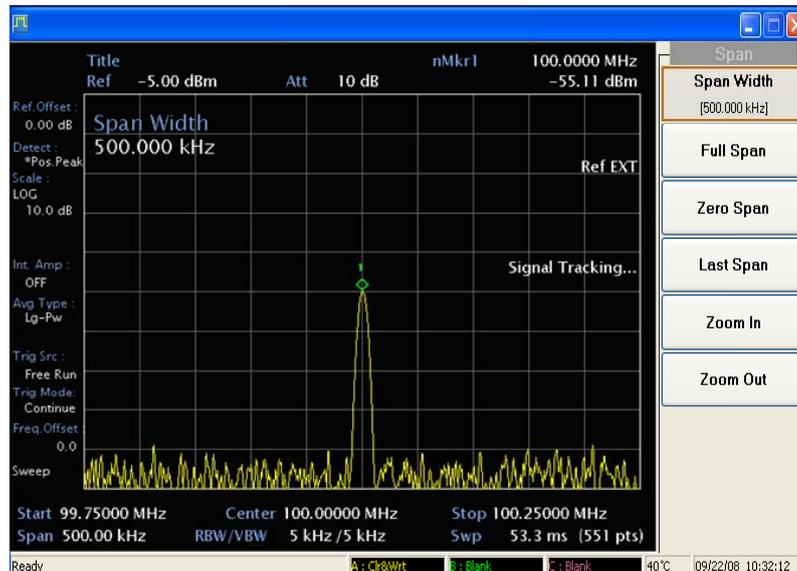

Fig. A-8 After zooming in on the signal
- 5 Press [SPAN] 500 kHz. The span decreases in steps as automatic zoom is completed (Fig. A-8). You can also use the scroll knob or step keys to decrease the span or use the [Zoom] function under [SPAN]. Press [PEAK], [Signal Track OFF] (so that OFF is highlighted) to turn off the signal tracking function.